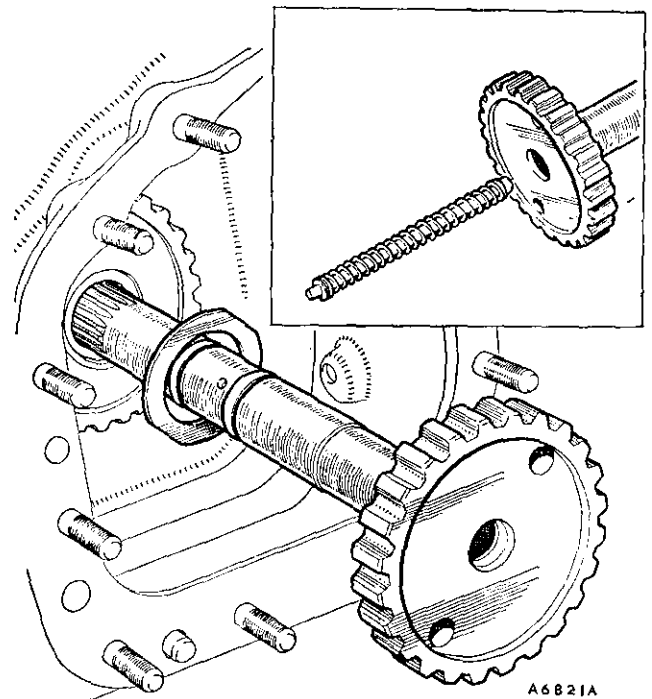

Fig. Fa.10
- (26) Tap up the locking washer.
- (27) Insert the forward output shaft with its bi-metal washer (see Fig. Fa.10) through the output gear assembly. Ensure that the reverse shut-off valve is located in the end of the shaft, and that the rings on the shaft are in good condition.